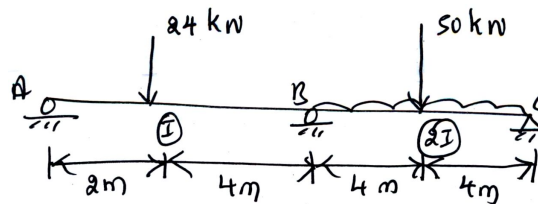

Fig.Q.9
- 9 Analyze the continuous beam shown in Fig.Q.9 by direct stiffness method. Draw BMD and SFD. (20 Marks)